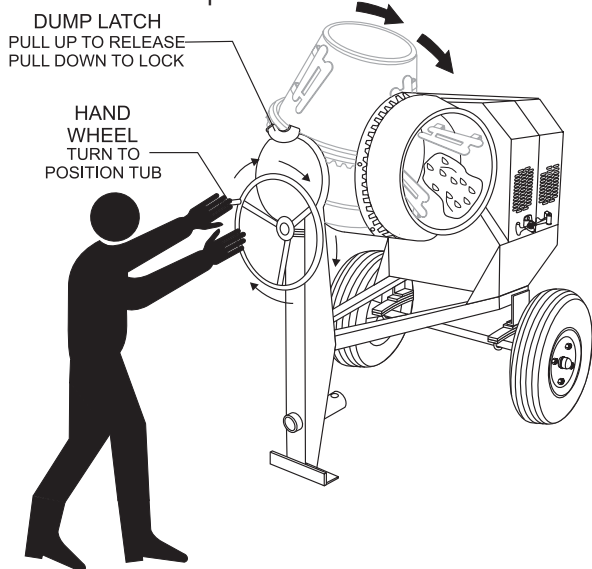

Figure 18. Mixing Drum Positioning
1. To position the tub, make sure the mixer is placed on firm level ground, then **pull up** on the **dump latch** (Figure 18) and turn the **hand wheel** until the tub is at the desired position. Once the tub is at the desired position, **pull down** on the dump latch to lock the tub in position.